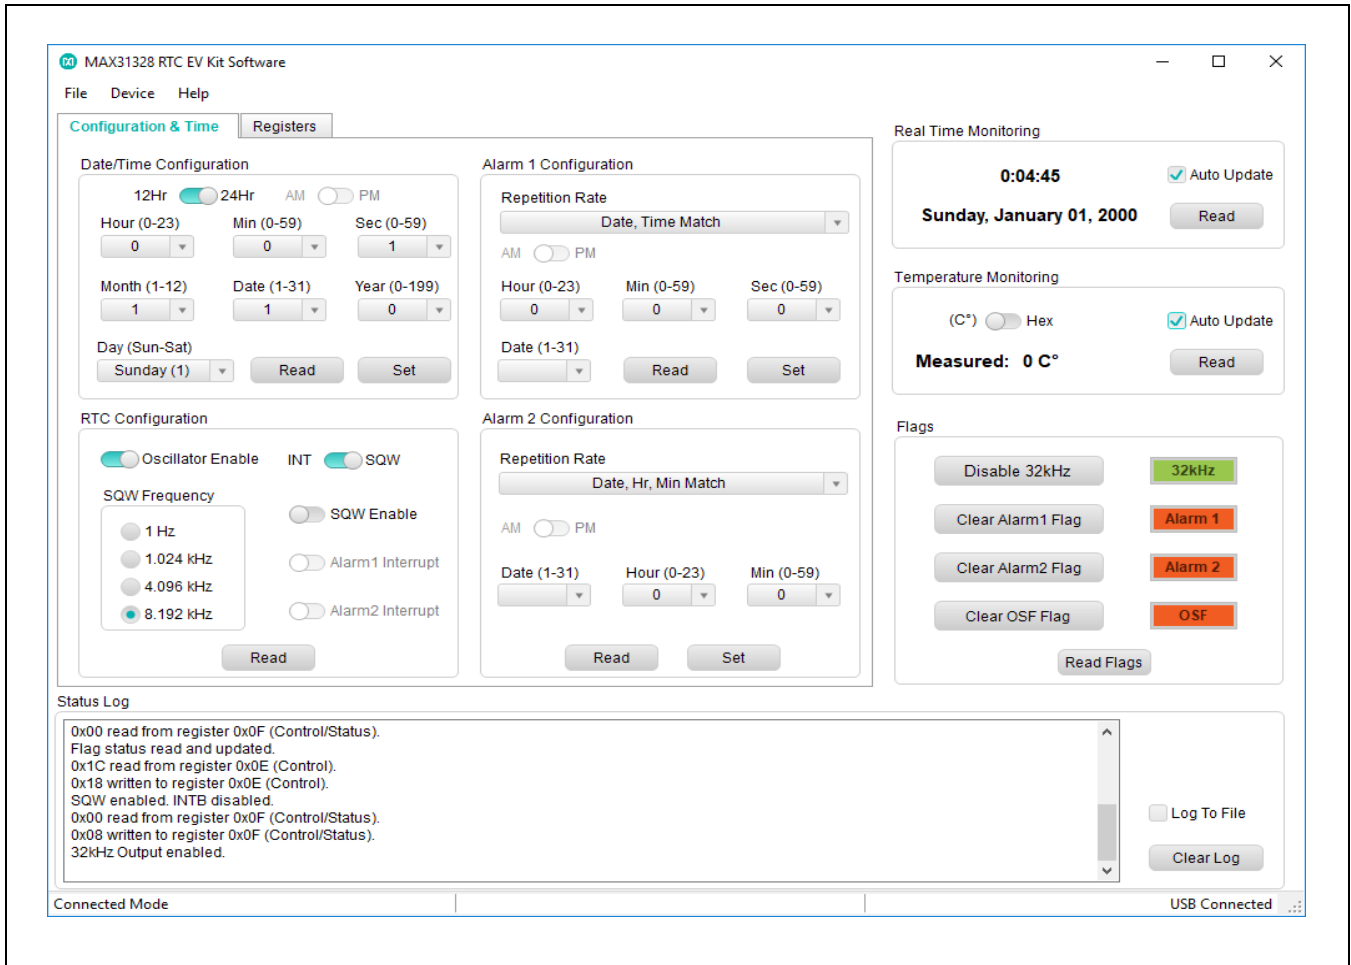

Figure 2. MAX31328 RTC Shield Software—Configuration & Time Page
- 6) Open the MAX31328 RTC SHIELD Software, shown as Figure 2.
Use the **Alarm 1 Configuration** and **Alarm 2 Configuration** to configure Alarm 1 and Alarm 2 (See Figure 2).